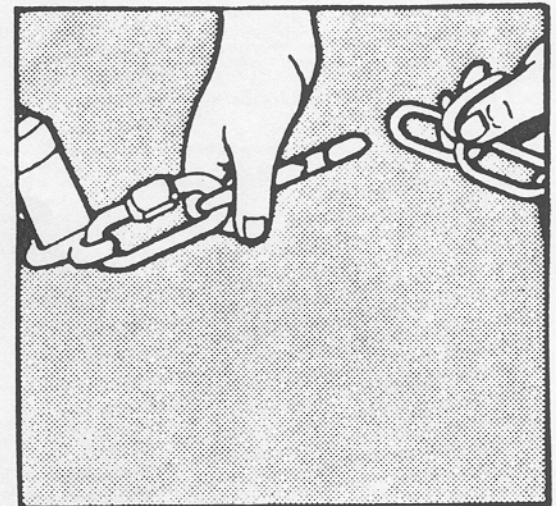

FIGURE 21
(6)- Hang guyings (16/3 and 16/4) by chains into safety hooks of the guy wire grips (figure 21).